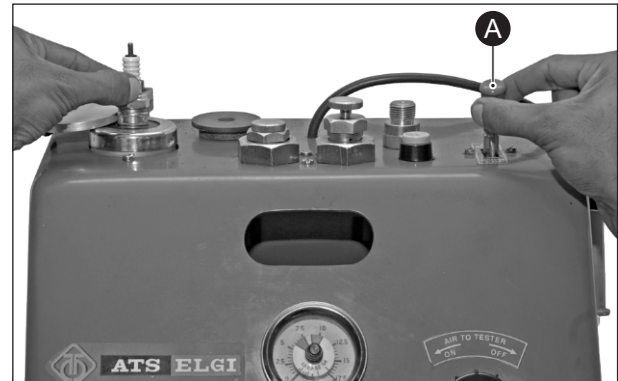

Fig. 2.38
- Fix the spark plug into the machine as shown in the figure. (Fig. 2.38)
- Blast the sand (abrasive) by pulling the lever (A) towards sand blasting mode while rotating the spark plug. (Fig. 2.38)
- Now, blow the air by pushing the lever (A) towards air blasting mode. This will remove any sand material stuck into the plug. (Fig. 2.38)